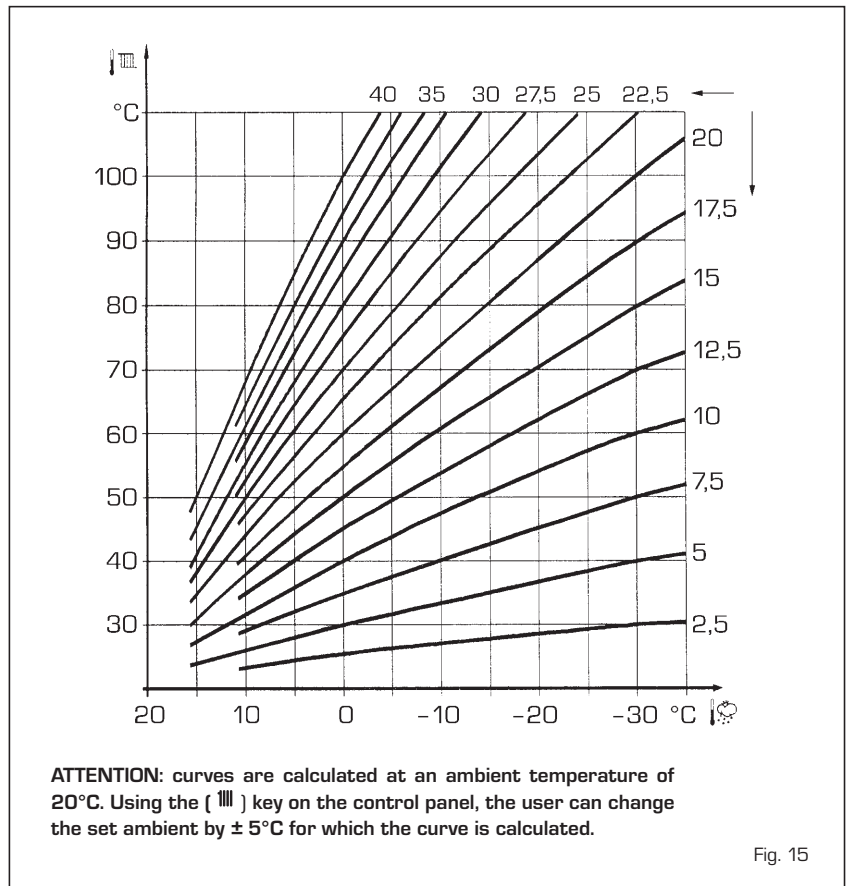

Fig. 15
3.4 EXTERNAL SENSOR (fig. 15)
The climatic curve to be set can be selected from a value of 3 and 40 (at step 1). Increasing the steepness of the curves of fig. 15 will increase the output temperature as the external temperature decreases.